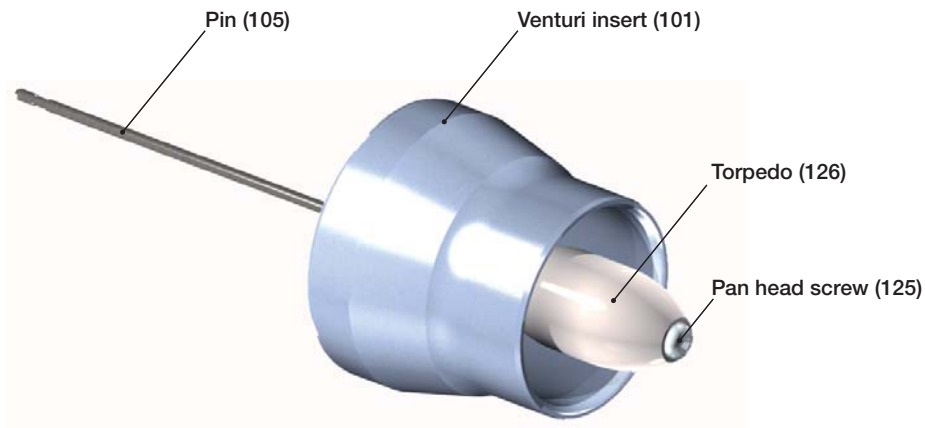

Fig 9: Unit with venturi insert and pin
Now the Venturi insert with the pin and torpedo unit (126) (Figure 9) can be pulled out of the mixer body.